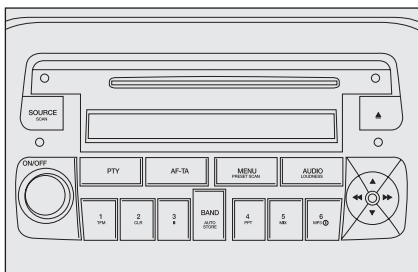

fig. 3
- ☐ with sound system upon request **fig. 3**;